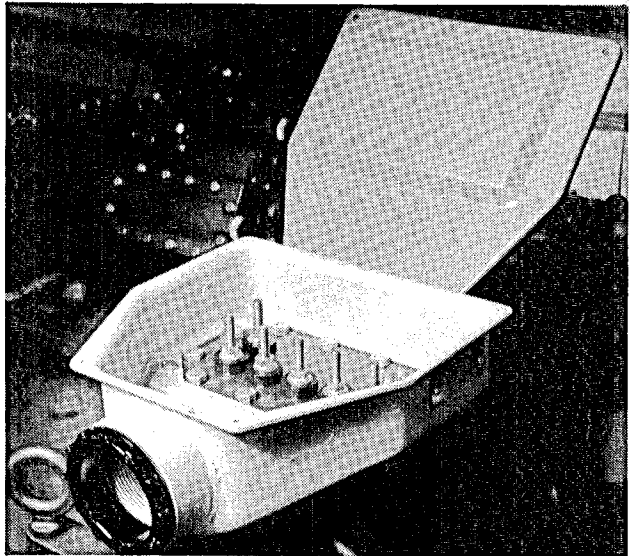

Figure 32
1. Remove the junction box cover (Figure 32) and junction box from the terminal plate.